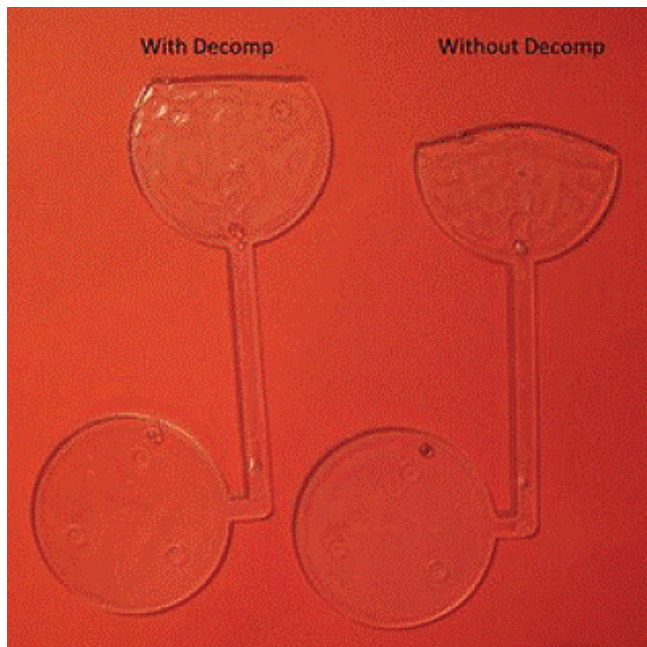
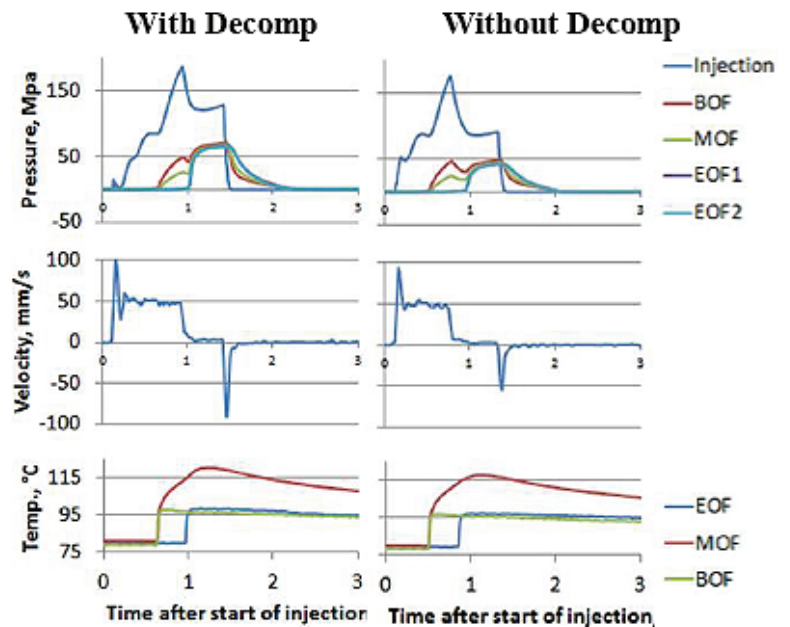

Figure 16: Parts at transfer with a 2SP2 injection, with position transfer, and low viscosity material, with and without decompression.
Figure 17: 3S process with position transfer with and without decompression.
The large effect of decompression variation (check ring leakage variation) can be seen graphically in Figure 15 and in the difference in the size of the parts at transfer in Figure 16. The parts with decompression weighed more than the parts without decompression by 8% at 25 mm/sec and 9% at 50 mm/sec. Figure 15
shows that the pressures are not as high without decompression because not as much plastic was pushed into the cavity, which can be seen in Figure 16.
0.25 inches). The parts were about as full as Figure 16 shows when the velocity changed occurred. As can be seen in **Figure 17**, this causes more of the part to be filled with the second, slower velocity and for the part to not be packed to as high of a pressure. **Figure 18** shows that, for in-cavity pressure transfer, in addition to more fill with the slower velocity the parts are also packed longer until reaching the set pressure. This causes the parts without decompression to weigh more than those with decompression when BOF, MOF, or EOF2 Pressure is used for transfer.